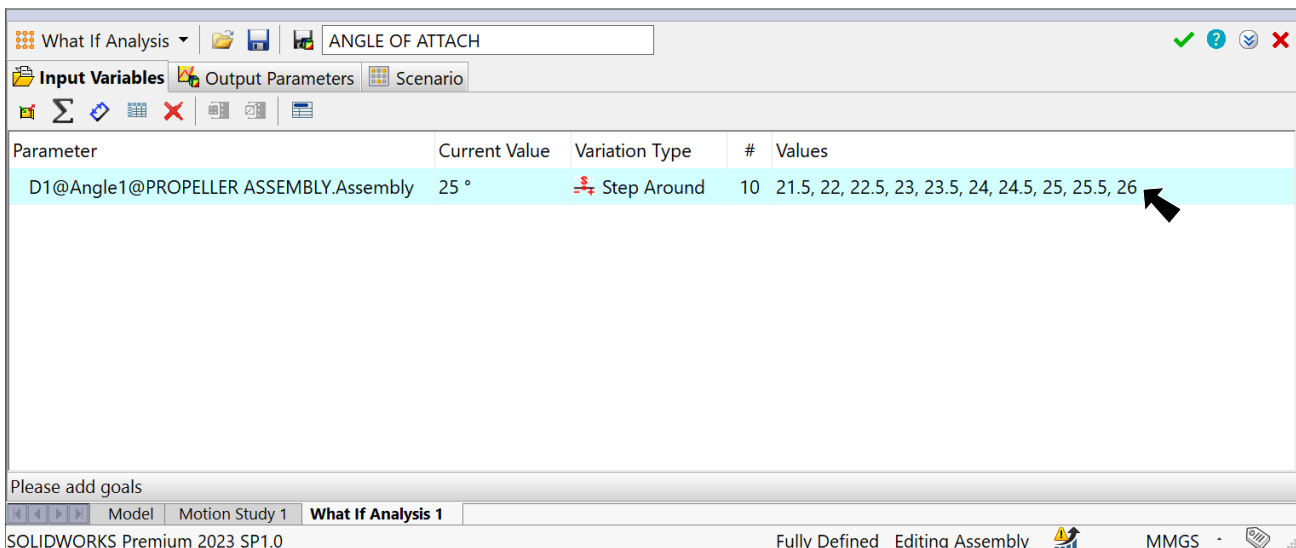

Fig. 7
Step 2. Back in the Parametric Study pane confirm new Values, **Fig. 7**.